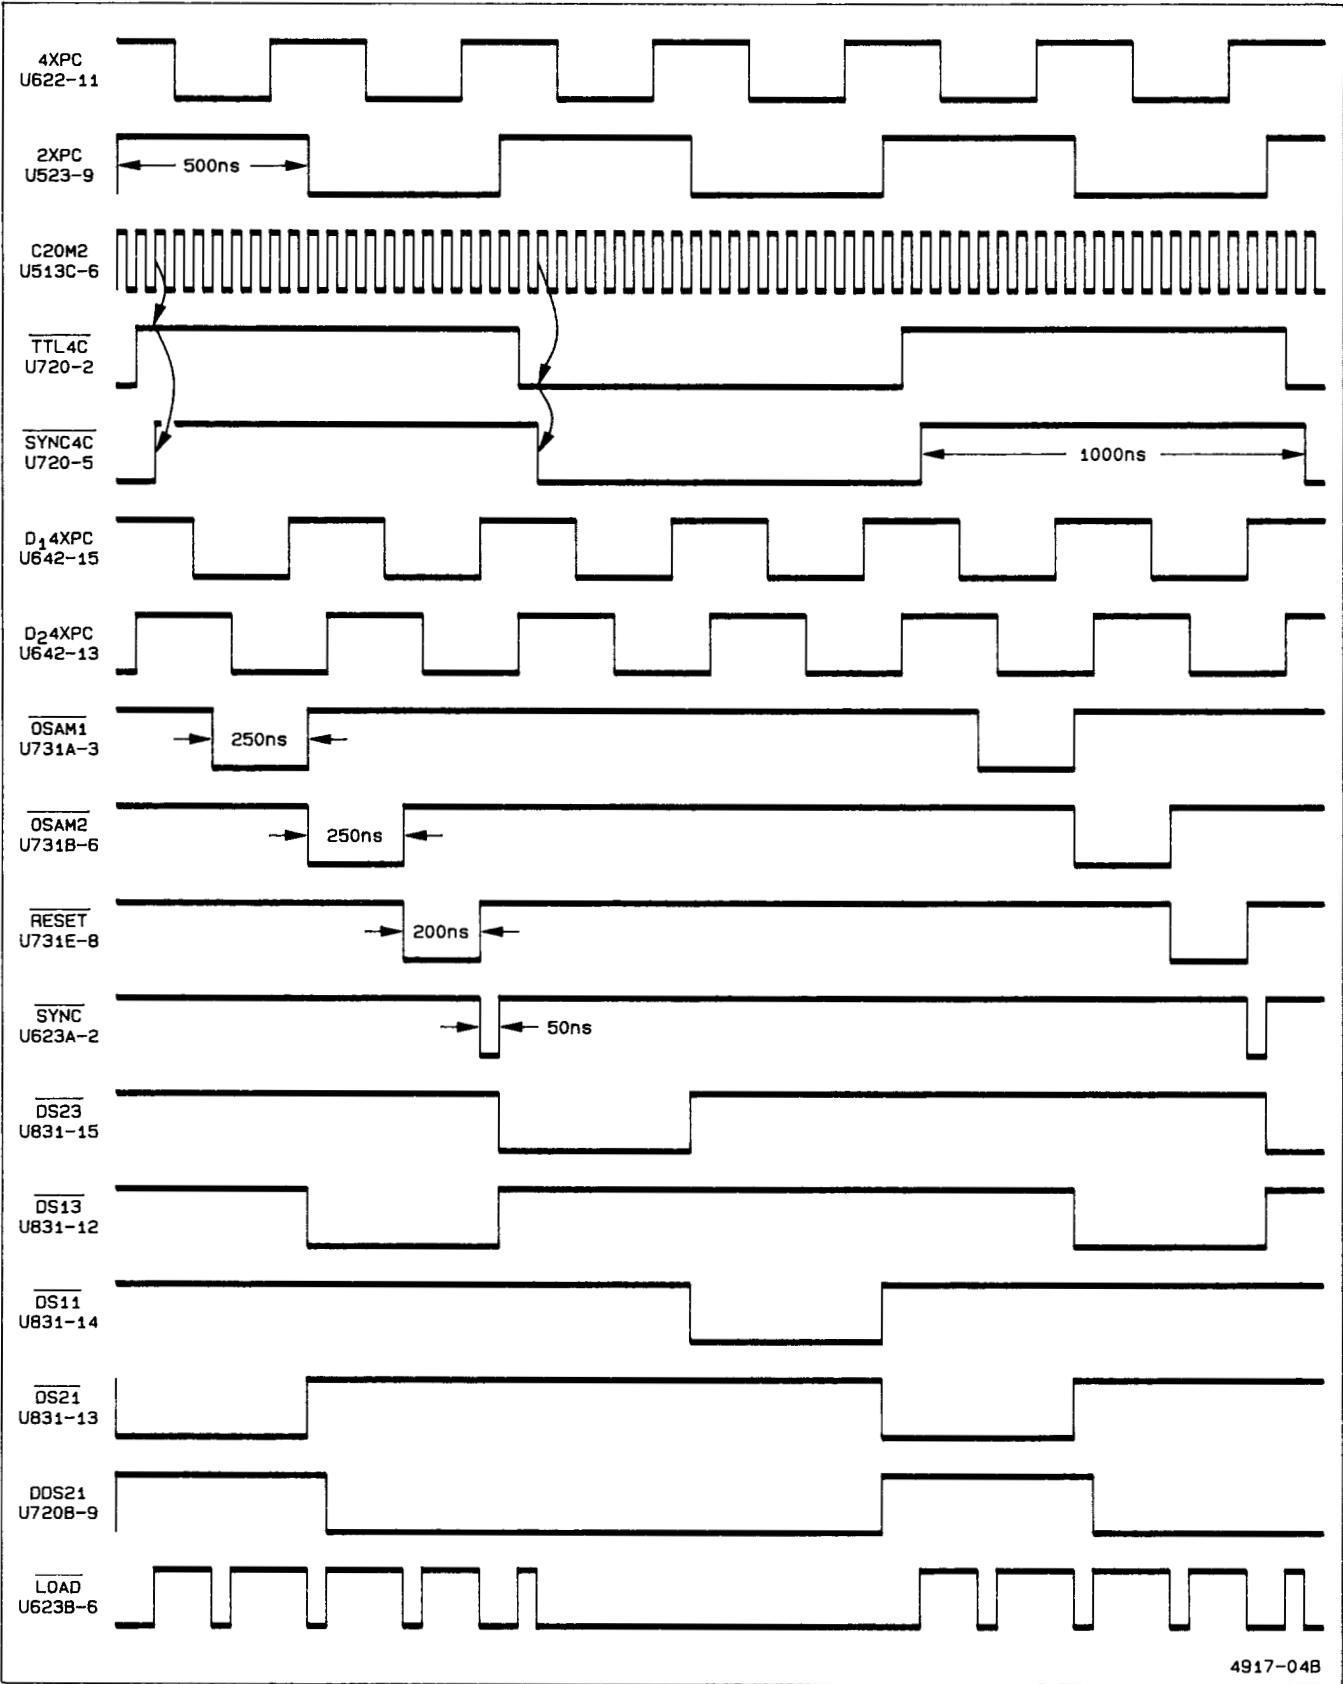

Figure 3-3. System Clock waveforms.
The CCD (charge-couple devices) Output-Sample Clocks stage controls signal transfers from the Acquisition CCD-Clock Drivers (diagram 10) to the external CCD Output circuitry (diagram 14). It consists of a state machine synchronized to the 20 MHz clock (and thus the CCD events) and produces clocks to: (1) move sampled data out of the CH1 CCD array, (2) move sampled data out of the CH2 CCD array, (3) reset both the CH1 and CH2 CCD array output-charge wells in preparation for the next transfer, and (4) phase-lock the CCD-Data Clock stage. Figure 3-3 illustrates the timing of these clocks and other clocks in the System Clock Generator; it may be of use in following the discussion of circuit operation.
The CCD Data Clocks ($\overline{DS11}$, $\overline{DS13}$, $\overline{DS21}$, and $\overline{DS23}$), generated by counter U721, shift register U831, and the associated logic gating, are responsible for multiplexing the four CCD array output levels (CH 1-1, CH 1-3, CH 2-1, and CH 2-3) onto the CCD DATA line for digitization by the A/D Converter. Figure 3-3 (shown previously) illustrates timing of the stage.